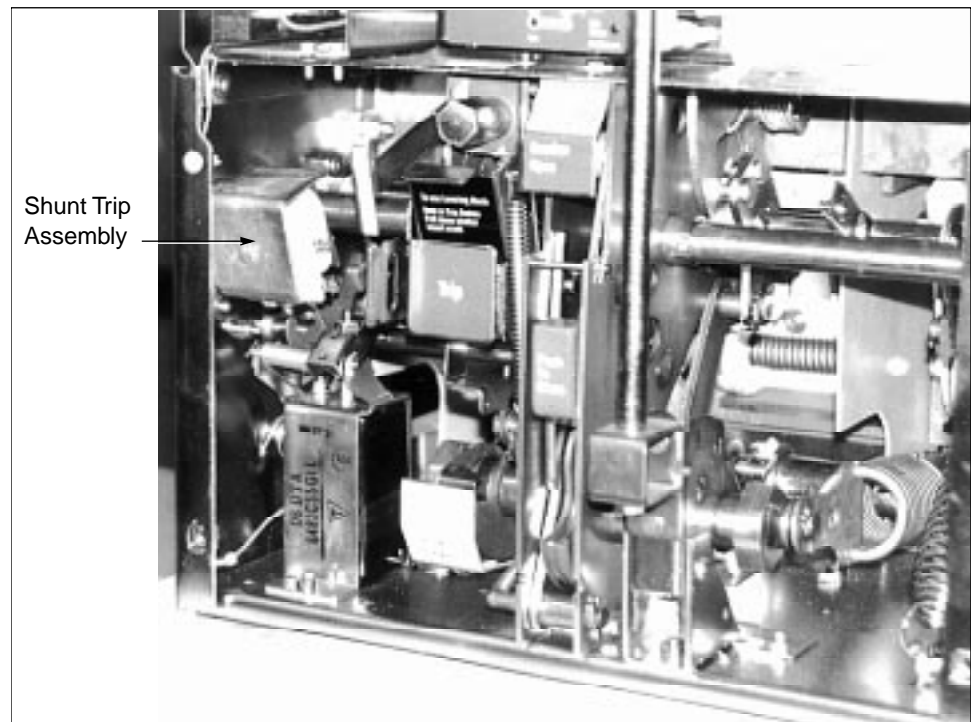

Figure 3: Position of shunt trip
3. Mount the shunt trip assembly (Figure 3) to the circuit breaker frame using the supplied screws.